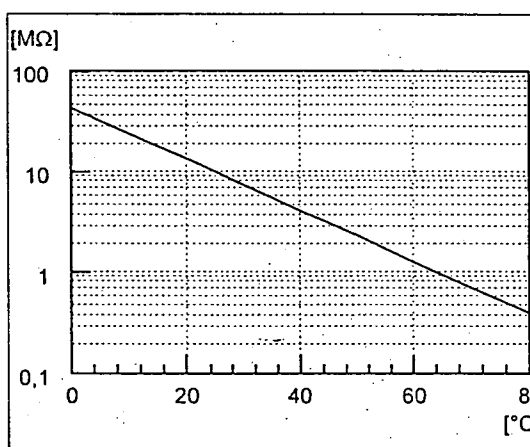

Fig. 1 Minimum Insulation Resistance
Check whether the motor has absorbed any moisture during the extended period of storage. For this purpose the insulation resistance must be measured (test voltage 500 V) (Fig. 1).
2. End the drying process when the minimum insulation resistance is exceeded (Fig. 1)